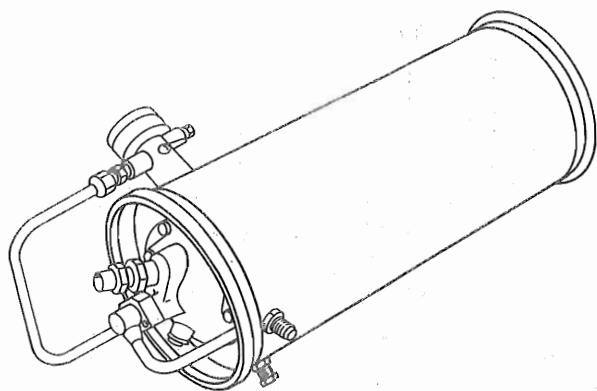

Figure 10-3. Aircraft Heater
b. Disconnect tube leading to air pressure switch (5) at combustion air inlet of heater (13). Remove nipple from inlet.
c. Unclamp and remove damper assembly or elbow (7) from combustion air inlet on top of heater (13).
f. Unclamp and remove exhaust tube (12) from heater.
g. Support heater and remove jacket clamp at each end of heater. Remove heater. (See figure 10-3.)